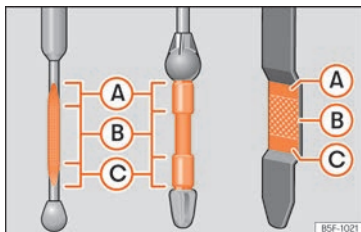

Fig. 270 Engine oil dipstick.
- Then pull it out once more and check the oil level **>>> Fig. 270**. Top up with engine oil if necessary.
- When the oil level reaches at least zone » **Fig. 270 B**, unscrew the engine oil filler cap carefully » **1**.
If the oil level is above area » **Fig. 270 A**, do not start the engine. This could result in damage to the engine and catalytic converter. Contact a specialised workshop.
The oil level must never be above zone » **Fig. 270 A**. Otherwise oil can be drawn in through the crankcase breather and leak into the atmosphere via the exhaust system.